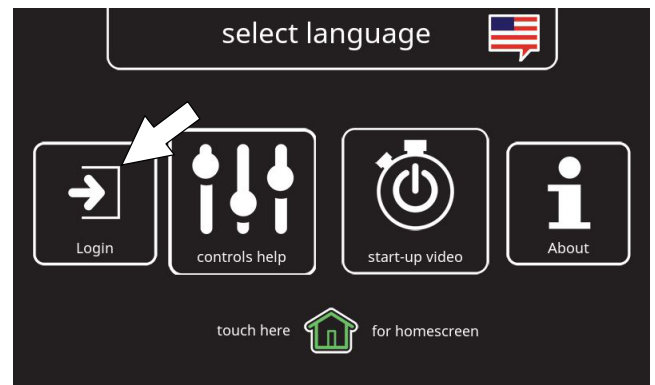

FIG. 173
2. Press the login button (Figure 173).